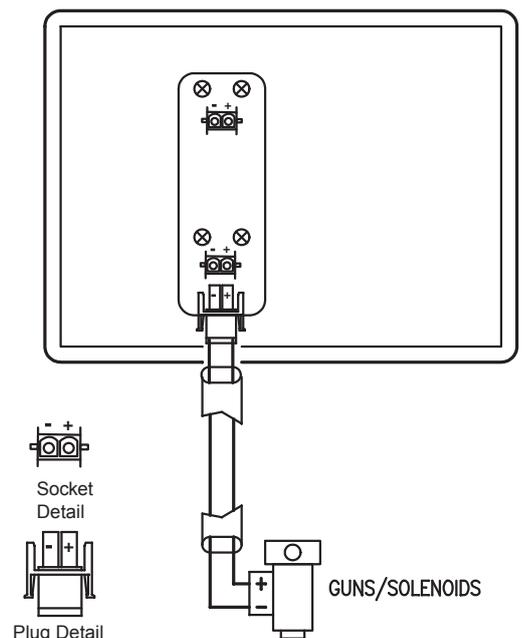

Figure 2
- 4 Check the data sheet on your solenoids to see if the coils are polarised. If the coils have marked positive and negative terminals, wire the positive terminal to the right hand pin on the Output Box connector. See Figure 2.